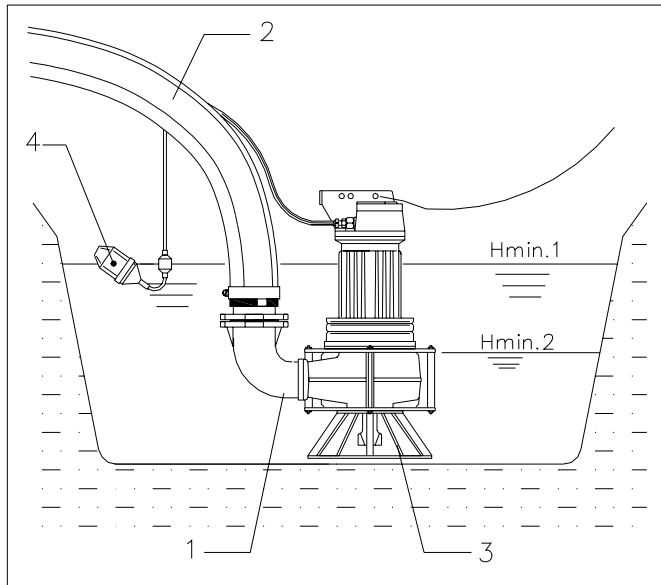

Fig. 6.8
- Check that the motor is adequately cooled. The motor housing should be at least 2/3 submerged for continuous operation at full load (see Hmin.1 Fig. 6.8).
For interrupted level controlled operation, less cooling is required. We recommend not to run the pump with the water level below the top of the volute in order to avoid air being drawn in (see Hmin.2 Fig. 6.8). Air in the discharge pipes might impair performance.